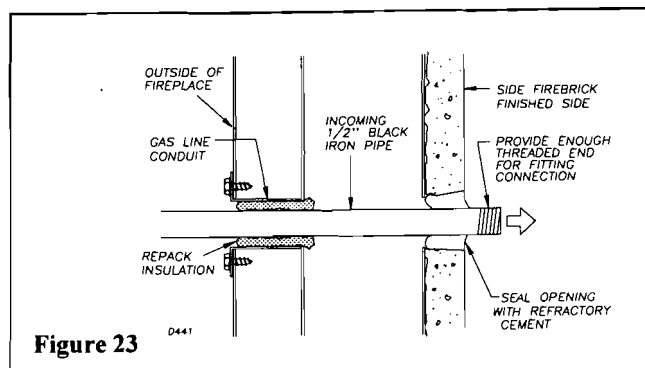

Figure 23 0441
STEP 3: Run a 1/2 inch black iron gas line into the fireplace through the gas line conduit sleeve. Provide sufficient gas line into fireplace chamber for fitting connection (see figure 23).